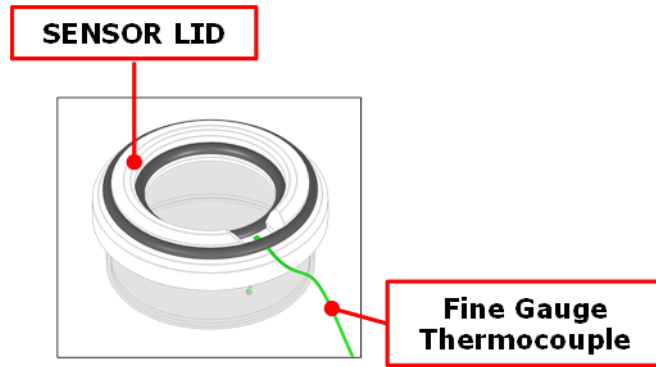

Figure 33. SENSOR LID-35. For 35 mm Petri-dish
**Tip** ► You can use also an OKOLAB SENSOR LID-# to hold the T sensor in the sample holder. Okolab SENSOR LID (available for purchase) secures the T Sensor in place during calibration as shown in Figure 33.